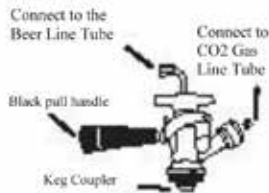

Figure 1
1. Make sure the black pull handle of the tap is in the closed (up) position before installing it on the keg (Fig. 1). Insert the keg coupler into the locking neck of the beer keg and turn clockwise  $\frac{1}{4}$  to lock it into position (Fig. 2). This means that it is secured to the keg.